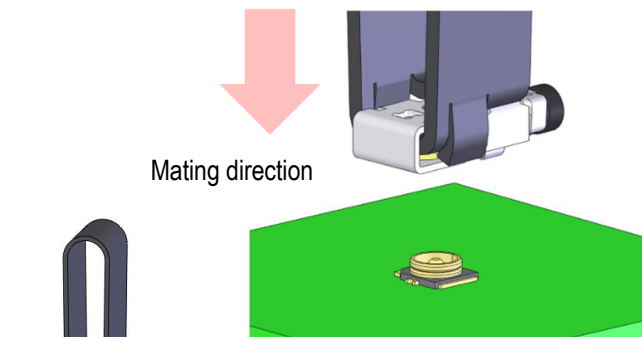

Figure 15
- ② Hold the MHF 4L LK Harness and mate to the receptacle, which is mounting on the PCB, vertically as shown in Figure 15 and 16.